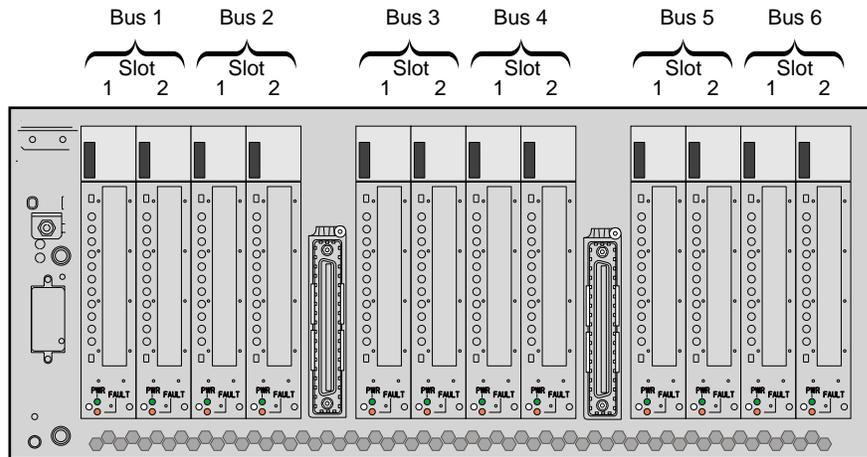

Figure 6-3 P-brick PCI Card Slot Numbering
- **48 VDC and 12 VDC LEDs.** The power switch must be in the ON (I) position for these LEDs to be on. The 12 VDC lights green when the L1 controller is powered on and operating, and the 48 VDC lights green when the rest of the I-brick internal components are powered on and operating. To power on the internal components, press the On/Off switch located on the L1 controller's front panel.
- **PCI slots.** Use these slots to install and replace PCI cards onto your server system. See "PCI Card Description and Installation" on page 136. The PCI card slots are numbered bus 1 through bus 6. Each bus has two slots, labeled 1 and 2, as shown in Figure 6-3. All slots can accommodate 66 Mhz or 33 Mhz PCI cards. If a PCI bus contains both a 33-Mhz card and a 66-Mhz card, however, both slots of that bus run at 33 Mhz.
The PCI card slots on the motherboard are numbered bus 1 through bus 6. Each bus has two slots, labeled 1 and 2, as shown in Figure 6-3.